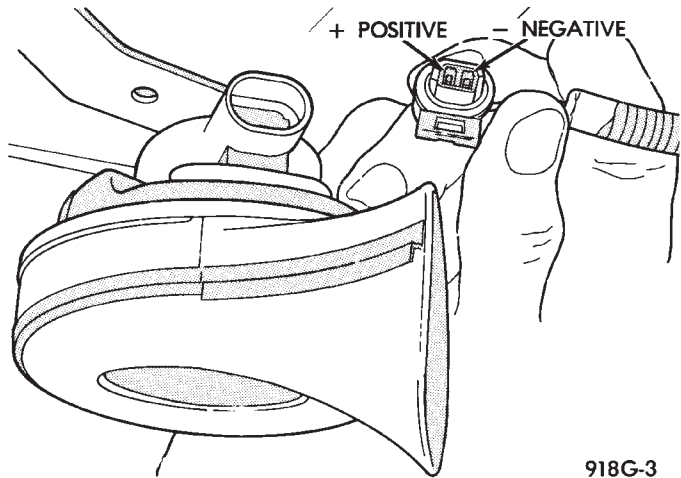

Fig. 2 Horn and Connector
- Using a voltmeter, connect one lead to ground and the other lead to the positive wire terminal (Fig. 2).